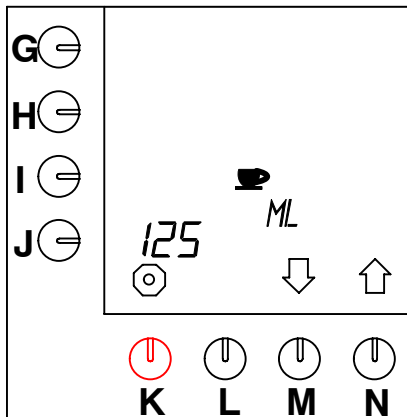

Fig. 34 Cup contents
- Press selection key (N.)↑ until fig.34 appears on the display.